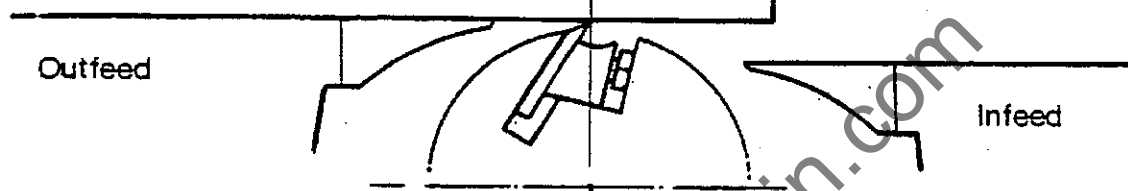

FIG 5A
- 2 :- Useing a straight edge off the rear table, check at three or four points along the length of the blade to ensure that the table is level with the cutting circle (FIG.5A).